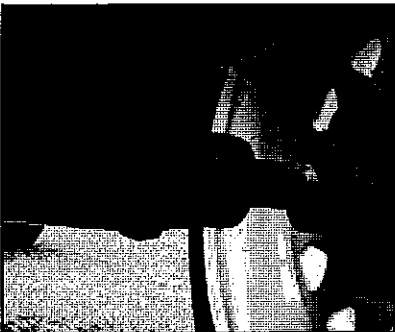

FIG. 9 - AXLE INSTALLED
STEP 3: Attach the axle to the underside of the trailer using four 9/16 x 1 1/2 inch bolts, four 9/16 inch washers, and four 9/16 inch nuts. (Refer to Figure 9.) Raise and block the trailer to gain access to the underside.